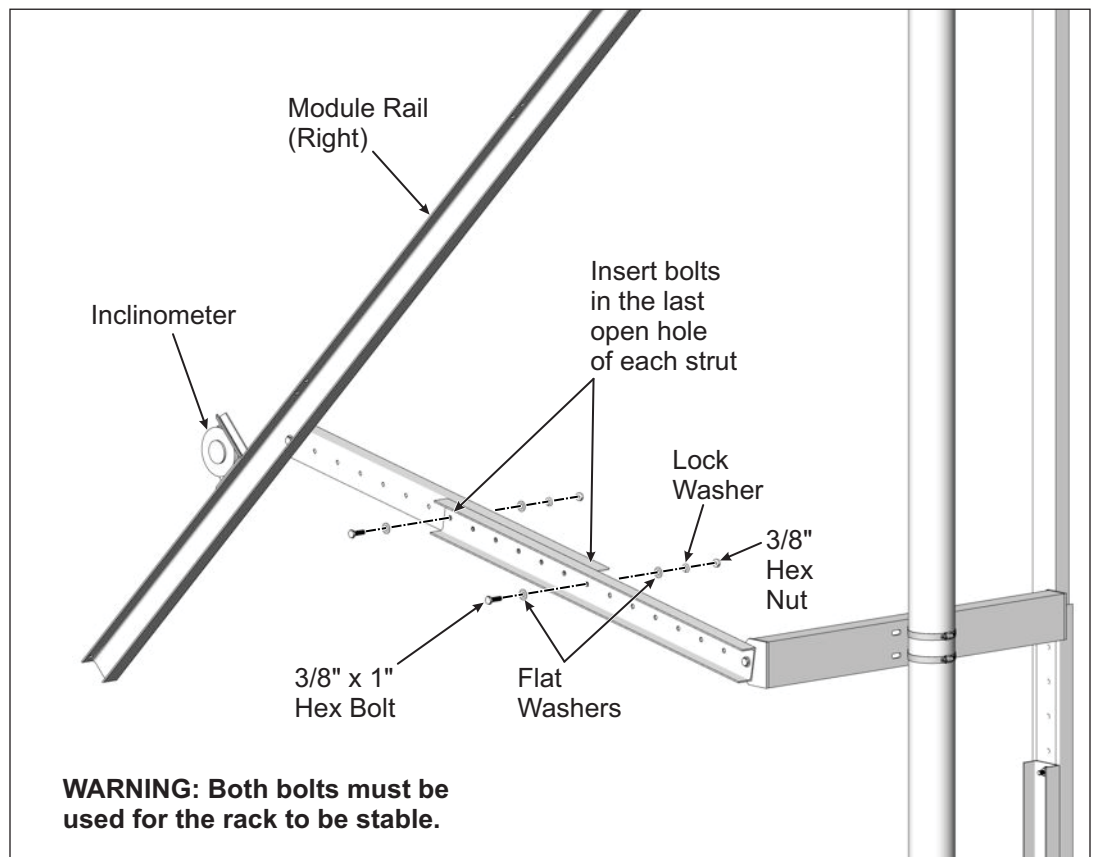

Figure 5-1: Joining the Two Halves of the Expandable Struts
- C. Secure the two halves with 3/8" x 1" hex bolt, lock washer, flat washers and Hex Nut. Be sure and insert the bolts in the last hole on each of the two halves as shown in Figure 5-1. **Torque to 32-34 ft.-lbs.**